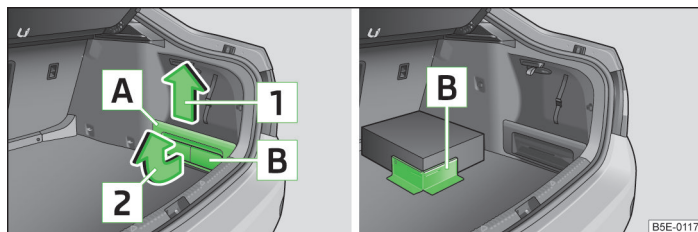

Fig. 89 Removing stowage compartment and cargo element/example of attaching an item of luggage using the cargo element
- Remove the cover of the storage compartment **A** in the direction of the arrow **1** » Fig. 89.
- The cargo element **B** (part of the cover of the storage compartment) in the direction of the arrow **2** » Fig. 89.